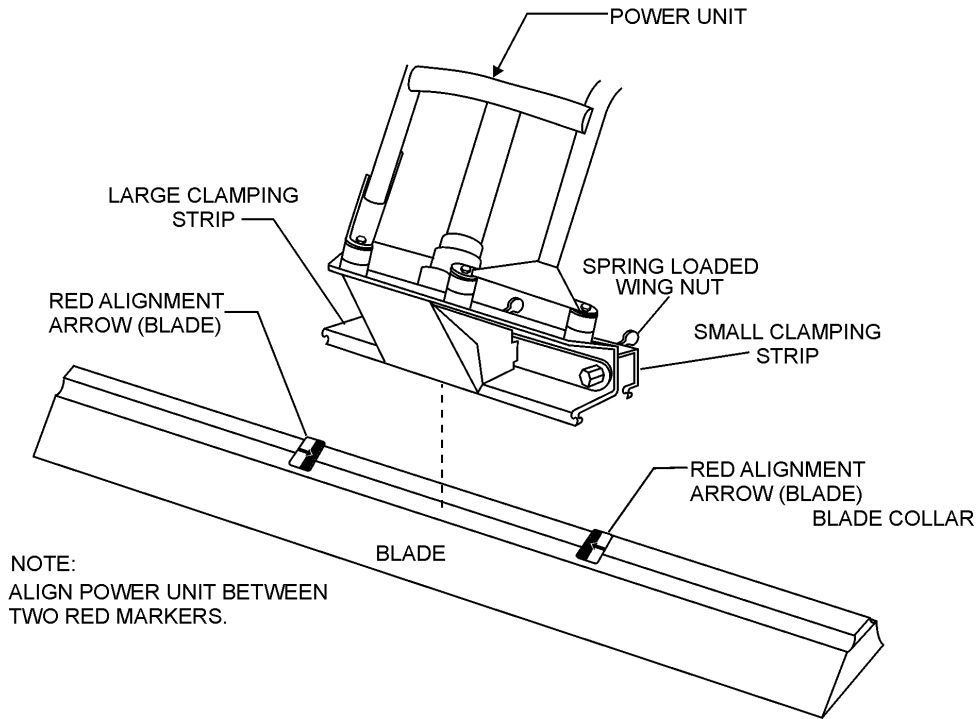

Figure 5. Blade Mounting Diagram
6. Place the front of the power unit over the blade (Figure 5) until the front of the clamp is seated within the front blade collar.